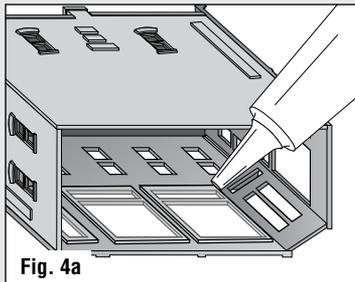

Fig. 4a
- Carefully dab a small amount of glue around edges (Fig. 4a).